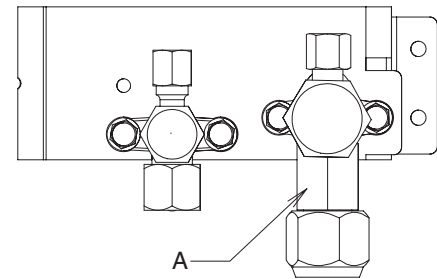

Fig. 1-20
- When removing or tightening the gas tube flare nut, use 2 adjustable wrenches together: one at the gas tube flare nut, and one at part A. (Fig. 1-20)